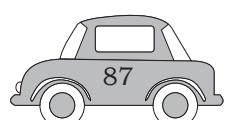

Fig. 3.36: Disc Brake
4. **Disc Brake or External Contracting Brakes:** It is the type of braking system in which instead of a drum assembly a disc rotor is attached to the hub of the wheel in such a fashion that it rotates with the wheel (see Fig. 3.36). This disc rotor is clamped in between the caliper which is rigidly fixed with the knuckle or upright of the vehicle. When brakes are applied the actuation mechanism contracts the attached brake shoes which in turn make the frictional contact with the rotating disc rotor and cause the stopping of a vehicle. An external contracting brake is used for only parking purpose as well as used to operate in flour mills, various types of electrical components, etc.